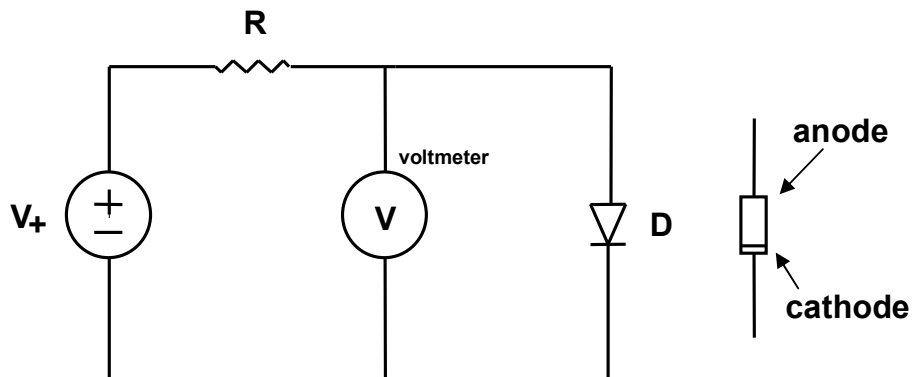

Figure 1. Basic diode test circuit
Wire together the circuit shown in Figure 1. Get in the habit of using the red and black *binding posts* on the *proto-board* for inputs and outputs (for example, voltage supply connections and voltmeter connections). These are much more stable than the wire sockets on the board itself. Notice that you can attach a wire to the binding post by unscrewing the top about half-way, slipping the stripped end of a wire through the exposed hole in the post, and screwing the top *gently* back down.
- a. Measure and record the voltage across the forward biased diode in Figure 1. Use the lowest possible *range* on the voltmeter for the best possible accuracy.
g. Forward bias the diode again, as in Figure 1. Using the technique you practiced in the *prelab*, design an experiment to determine I_S and n . Briefly describe this experiment in your lab notes and carefully record the data. (Check-point: have the instructor look at your results before you leave!). **For your lab report, calculate I_S and n .**
h. Reconstruct Fig. 1 again using the 1N914. Measure and record the diode voltage and *label* this measurement as "room temperature ~ 20 C." Get the aerosol refrigerant from the instructor and *briefly* (~ 1 sec.) apply it to the diode while watching the voltmeter. Record the highest voltage that the diode attains. For a constant current, the forward voltage of a silicon diode decreases 2 mV for every 1 $^{\circ}$ C rise in temperature. Engineers call this a *temperature coefficient* and write it as -2 mV/C. **How cold did your diode become after you sprayed it?** Grip the diode firmly between your fingers so that your body's heat warms the diode. **Record the result and calculate the temperature caused by your fingers.**
i. Remove the 1N914 diode from the circuit in Figure 1 and replace it with a forward-biased 1N34A or 1N60A. (This diode may be unmarked...ask the TA if you need help!). Measure and record the diode voltage, remembering to *label* data. The 1N914 is a *silicon* diode and has a forward voltage of about 0.7 volts. The *energy band gap* is the energy required to free an electron and allow it to conduct current. The band gap of silicon is 1.12 eV. The 1N34A is made from *germanium* which has a lower energy band gap (0.66 eV) and a lower “on” voltage (at the same current).